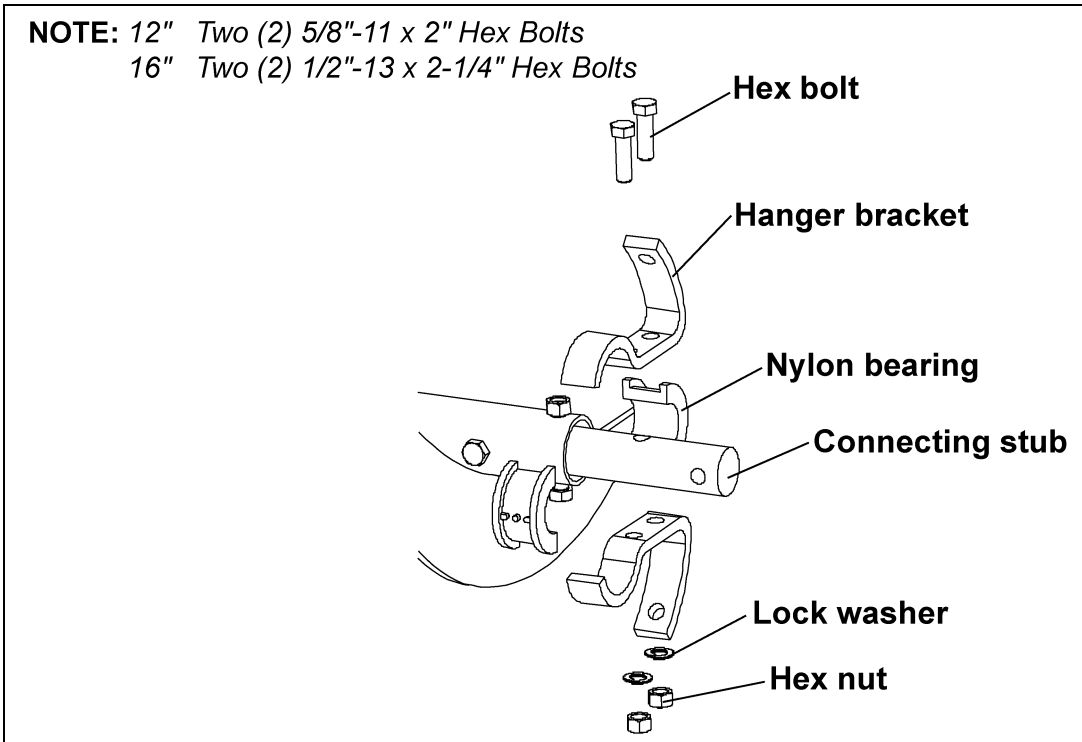

Figure 5E
A. Bolt the nylon bearings and hanger brackets to the connecting stubs using hex bolts, lock washers, and hex nuts as shown in See Figure 5E.